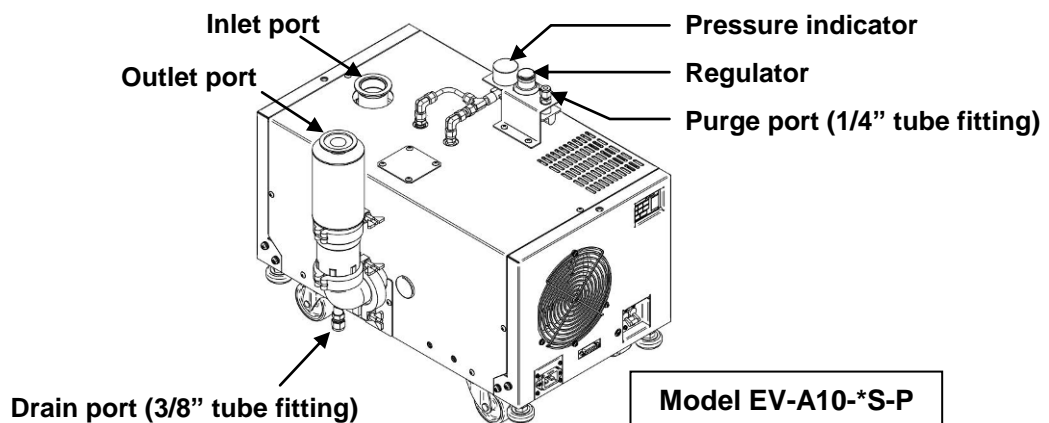

Fig. 5.4 Position of each equipment
Fig. 5.4 shows the positions of a purge port, a regulator, a pressure indicator, and a drain port.
- On a regular basis, please discharge condensation liquid collected on into the exhaust pipe part from the drain port. (See Fig. 5.4)